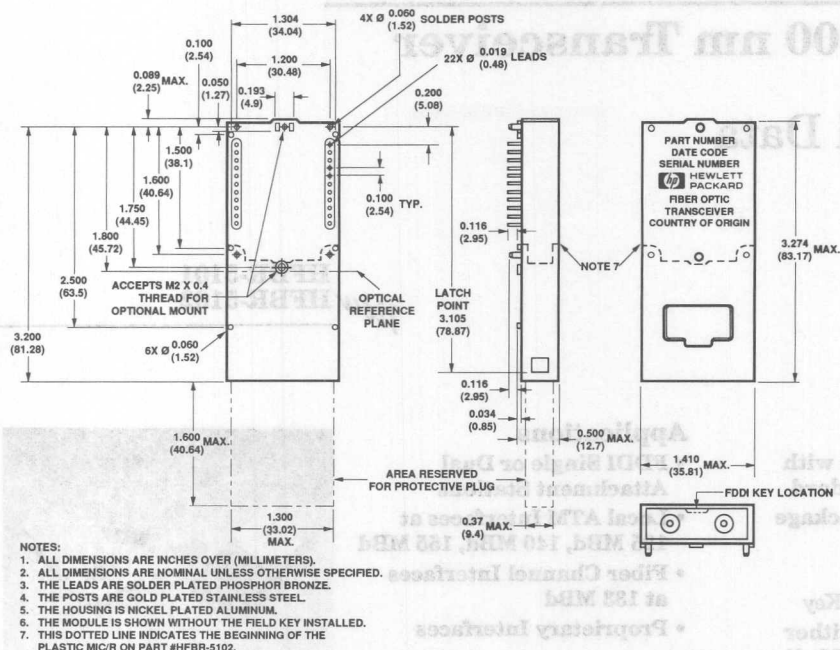

Figure 1. Outline Drawing. HFBR-5101 - Metal MIC/R, HFBR-5102 - Plastic MIC/R
- The HFBR-5102 is constructed with a non-conductive plastic MIC/R mated to an aluminum case for the electrical subassembly. See Figure 1 for the outline drawing. This part is intended for use in equipment designs where separation is desired between the system signal ground and the chassis ground. The plastic MIC/R provides this ground isolation. The low emissions signature of the HFBR-5102 makes it compatible with VCCI Class 2, CISPR 22B, CENELEC 55022B and FCC Class B EMI Regulations.
- The HFBR-5101 is an all aluminum package part including the MIC/R. See Figure 1 for the outline drawing. The HFBR-5101 has